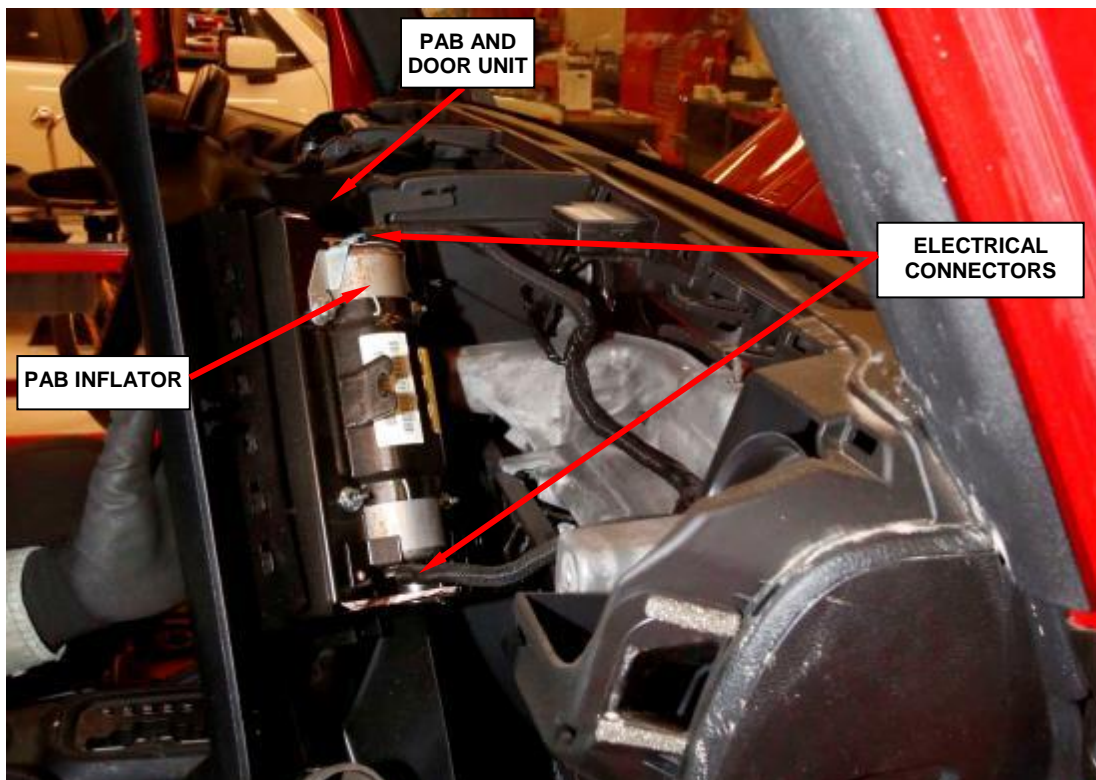

Figure 87 – Electrical Connectors
28. Grasp the lower edge of the PAB door and pull the door and PAB unit rearward far enough to access the two instrument panel wire harness connections to the PAB inflators at each side of the PAB housing (Figure 87).
29. Disconnect the two panel wire electrical connectors from the PAB inflators. Firmly grasp and pull the lock straight out from the connector insulator, then pull the insulators straight out from the inflator to disconnect them from the connector receptacles (Figure 87).